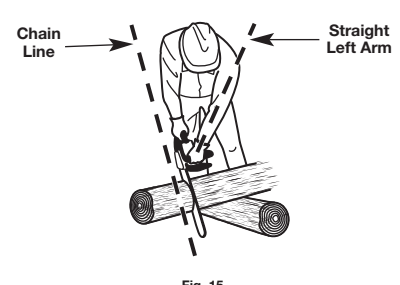

Fig. 15
- Keep the left arm locked in a “straight arm” position to withstand any kickback force (Fig. 15).
- Keep all body parts to the left of the chain line (Fig. 15).